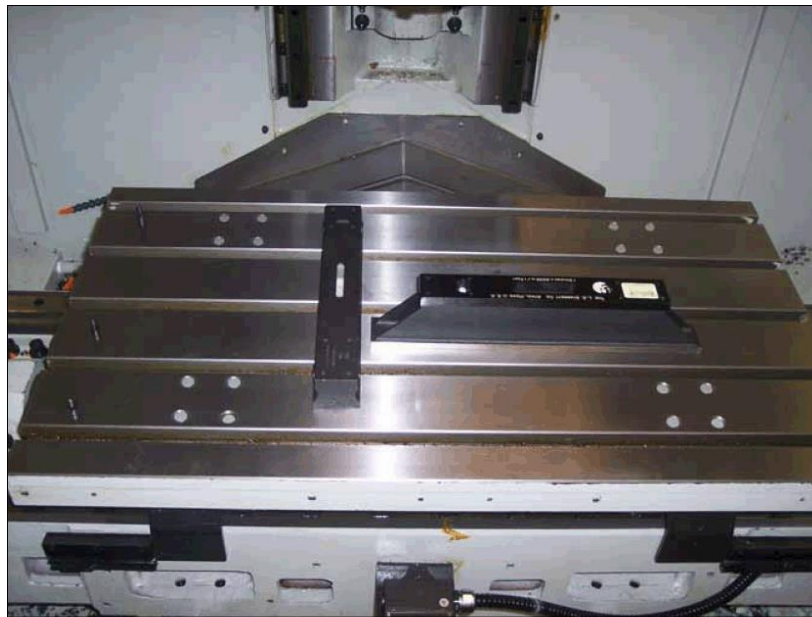

Figure 3.8
2. Clean the table thoroughly and place 1 or 2 precision Spirit levels or electronic levels in the center of the table in the positions illustrated in figure 3.8.
4. With the precision levels placed on the worktable as shown in figure 3.8, level the 2 OP to within 0.0005"/10 in.